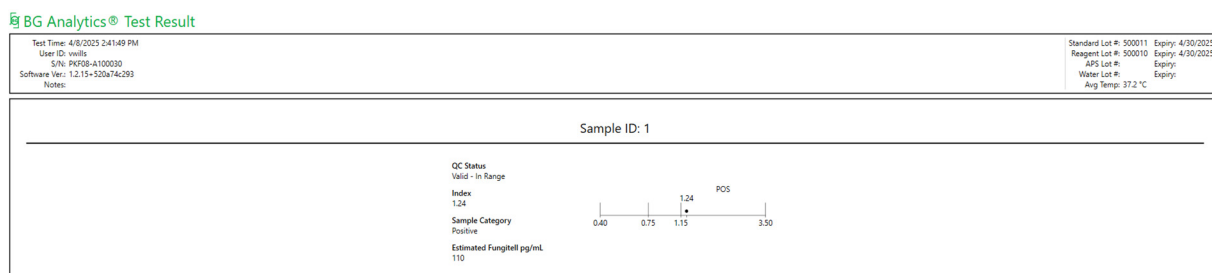

Figure 15. BG Analytics® Test Result Screen
2. BGA will instantly generate a report for the completed assay as **BG Analytics® Test Result** screen (as shown in Figure 15).